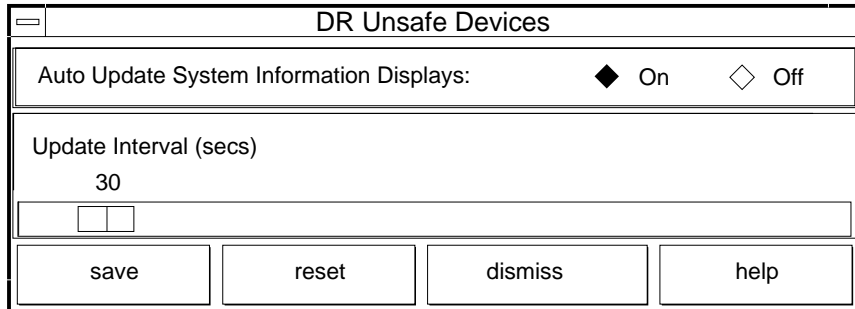

FIGURE 2-7 DR Properties Window
1. Click the **Properties** button in the **Dynamic Reconfiguration** window (FIGURE 2-7).